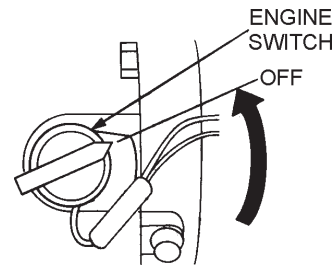

Figure 23. Engine ON/OFF Switch (OFF)
- Turn the engine ON/OFF switch to the "**OFF**" position (Figure 23).